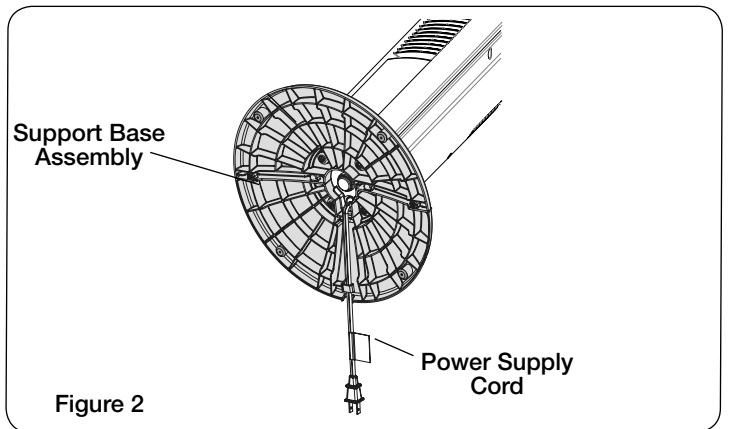

Figure 2
3. Thread the Power Supply Cord through the large hole in the center of the Support Base Assembly. (Figure 2)